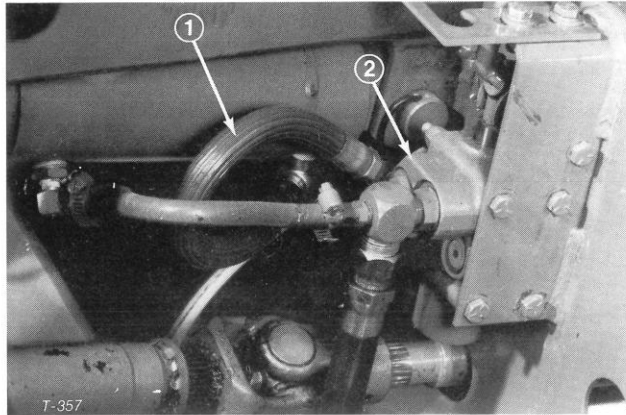

Figure 66
5. Disconnect cylinder hose from 90° fitting on lift valve (Fig. 66). Keep end of hose higher than cylinder to prevent oil from draining out the hose. Plug end of the hose.